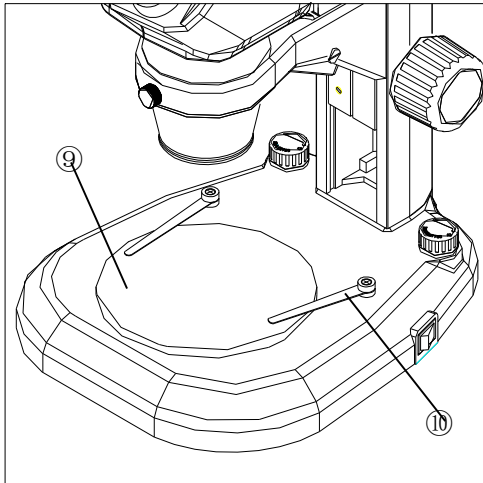

Fig 5
2.2.4 Use the glass stage(fig.5)